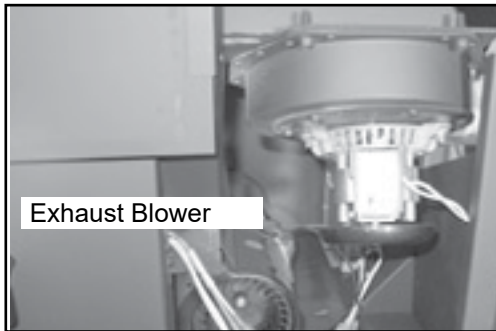

Figure 25.1
4. There is a removable plate on the exhaust blower. Depending on the model, use a 1/4 inch socket, or 1/4 inch Nut Driver or #2 Phillips Head screw driver to loosen the 6 screws in the keyhole shaped holes and rotate the plate. It is only necessary to loosen screws (**Figure 25.1**).
3. Snap disc #1 is located on the convection plenum below the feed motor (**Figure 25.1**).
3. Snap disc #3 is located on the bracket on the feed tube near the feed motor (**Figure 25.1**).